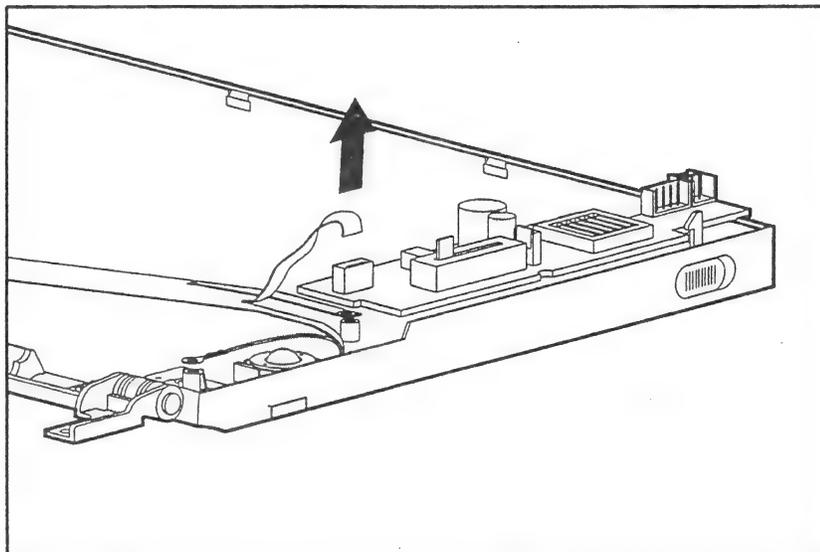

Figure 2-23. Removing the Display Cable
4. Disconnect the display cable from the inverter board (Figure 2-23).